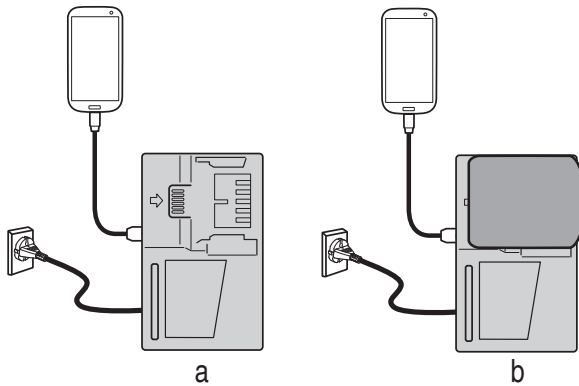

Fig. 2
- Charging a USB device from a electrical outlet (**Fig. 2-a**)
- Charging a USB device and battery from a electrical outlet (**Fig. 2-b**)